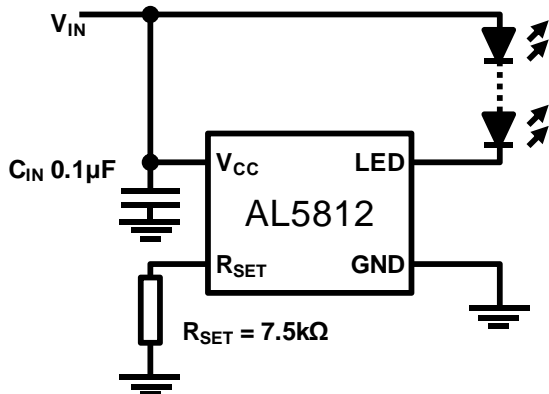
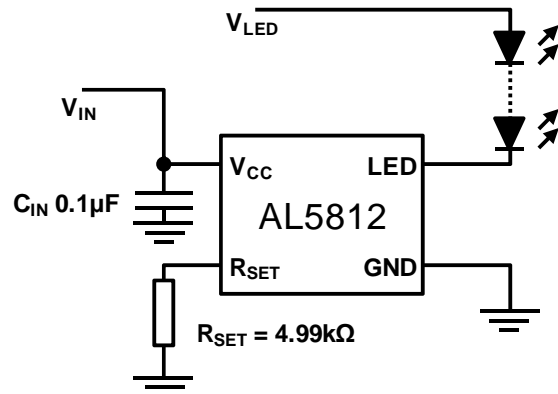
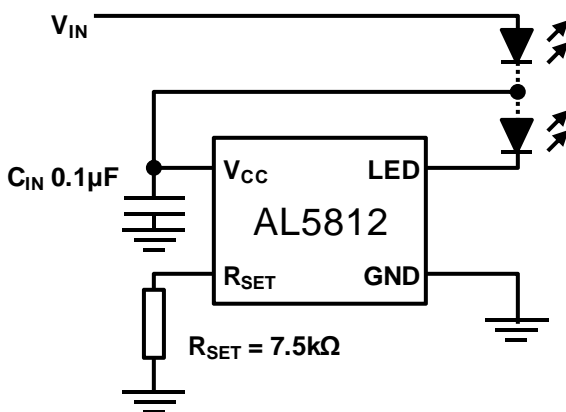

Figure 13 Low Side Current LED Setting
Figure 14 Low Side Drive – Separate Supplies
Figure 15 Low Side LED String Tapping
- 13. The AL5812 has its VCC pin connected to its LED pin, which are connected to the positive input supply voltage. RSET is connected to AL5812 GND pin, which is connected to the anode of the LED chain. This creates a high side driver of the LED chain. See Figure 15.
The AL5812 is a Linear LED driver and in normal operation has the LEDs connected to the same potential as its  $V_{CC}$  pin and regulates the LED current by sinking current into to its LED pin see Figure 13.
The AL5812 with its 60V capability on its supply pin,  $V_{CC}$ , and its LED drive pin allows it to operate from supply rails up to 60V and/or directly drive LED chains up to 60V as shown in Figures 13 and 14. The voltage applied to the  $V_{CC}$  pin can be greater or lower than the voltage applied to the LED string. Figure 14 shows where you might control it from a 5-V rail but power the rails from a 12V rail.
An extension of Figure 14 is to derive the power for the AL5812 from the LED chain itself see Figure 15. LED chains greater than 60V can be driven in this manner as long PWM dimming is not utilized.